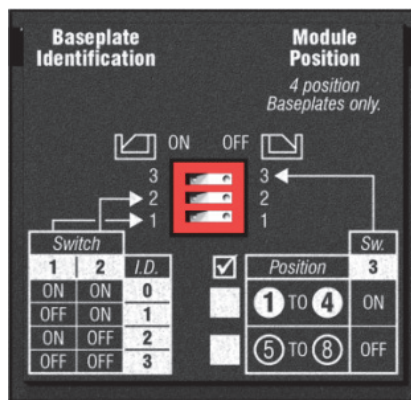

Figure 3. Modular Baseplate ID Switches (For FBM Baseplates)
- ▶ The number of the FBM baseplate in the group, as set by means of the baseplate Identification (I.D.) DIP switches on each baseplate (see Figure 3).
- ▶ The number of the FBM baseplate in the group, as set by means of the baseplate Identification (I.D.) DIP switches on each baseplate (see Figure 3). FBM-supporting baseplates should be assumed to have this switch unless otherwise specified below.